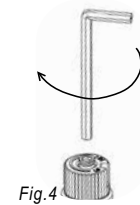

Fig.4
18) Using the Allen wrench as shown in Fig.4, rotate the screw clockwise until snug, do not overtighten.